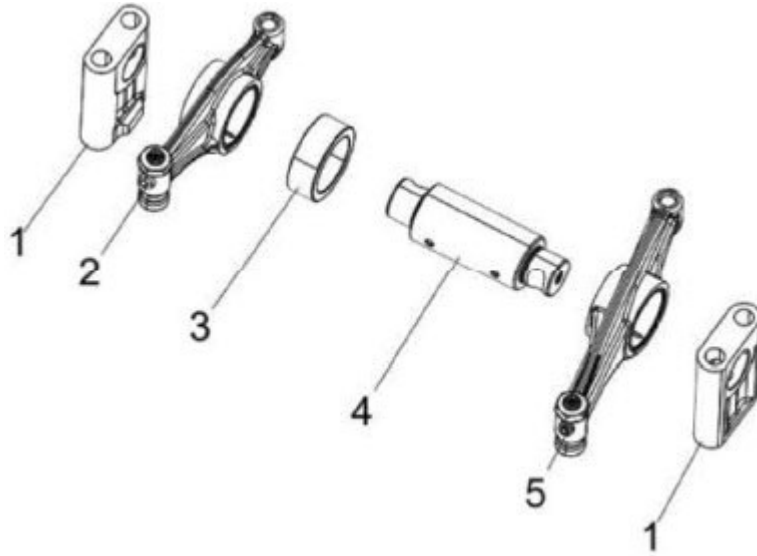

Figure 78. Rocker Arm Assembly
1. Lubricate the rocker arm shaft. Slide the rocker arm supports (Figure 78, Item 1), and rocker arms (Figure 78, Items 2 & 5) onto the shaft.
- Align the hole in the rocker arm shaft (Figure 78, Item 4) and the hole in the rocker arm support (Figure 78, Item 1).